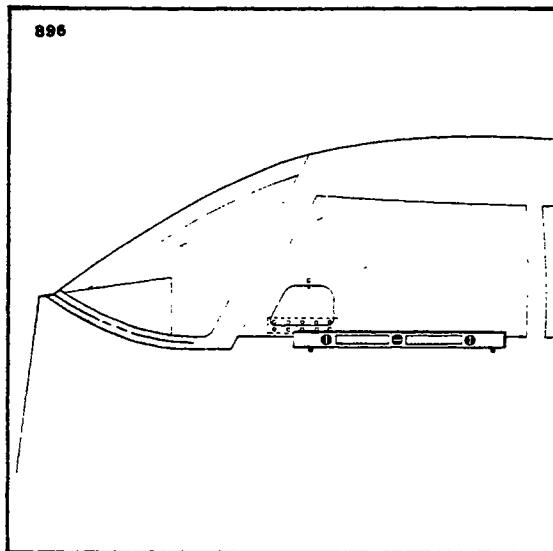

Figure 2-34. Leveling Longitudinally
- To longitudinally level the airplane, partially withdraw the two leveling screws located immediately below the left front side window. (Refer to Figure 2-34.) Place a level on these screws heads and adjust the jacks until the level is centered. Should the airplane be either on scales or on the floor, first block the main gear oleos to full extension; then deflate the nose wheel until the proper position is reached.